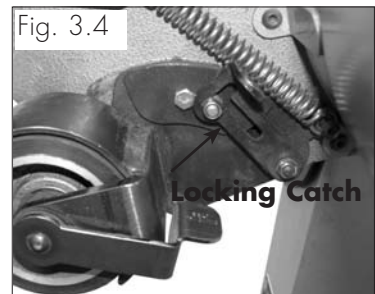

Fig. 3.4
3. Ensure the catch is engaged before removing the belt fig 3.4.